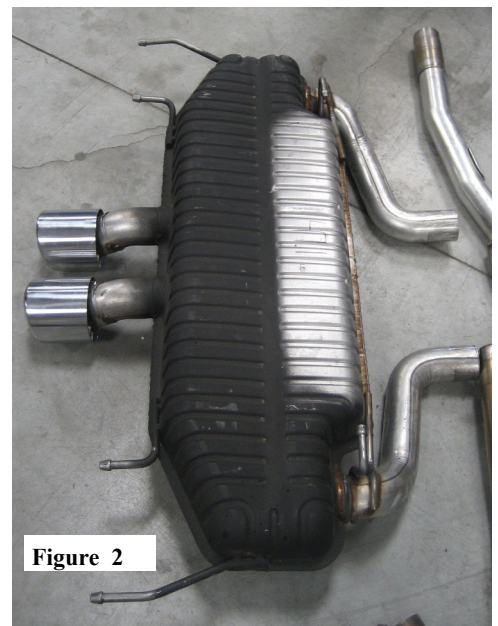

Figure 2
2. Remove the muffler from its rubber hangers and discard the old muffler. (See Fig. 2) De-burr the end of both mid-pipes.